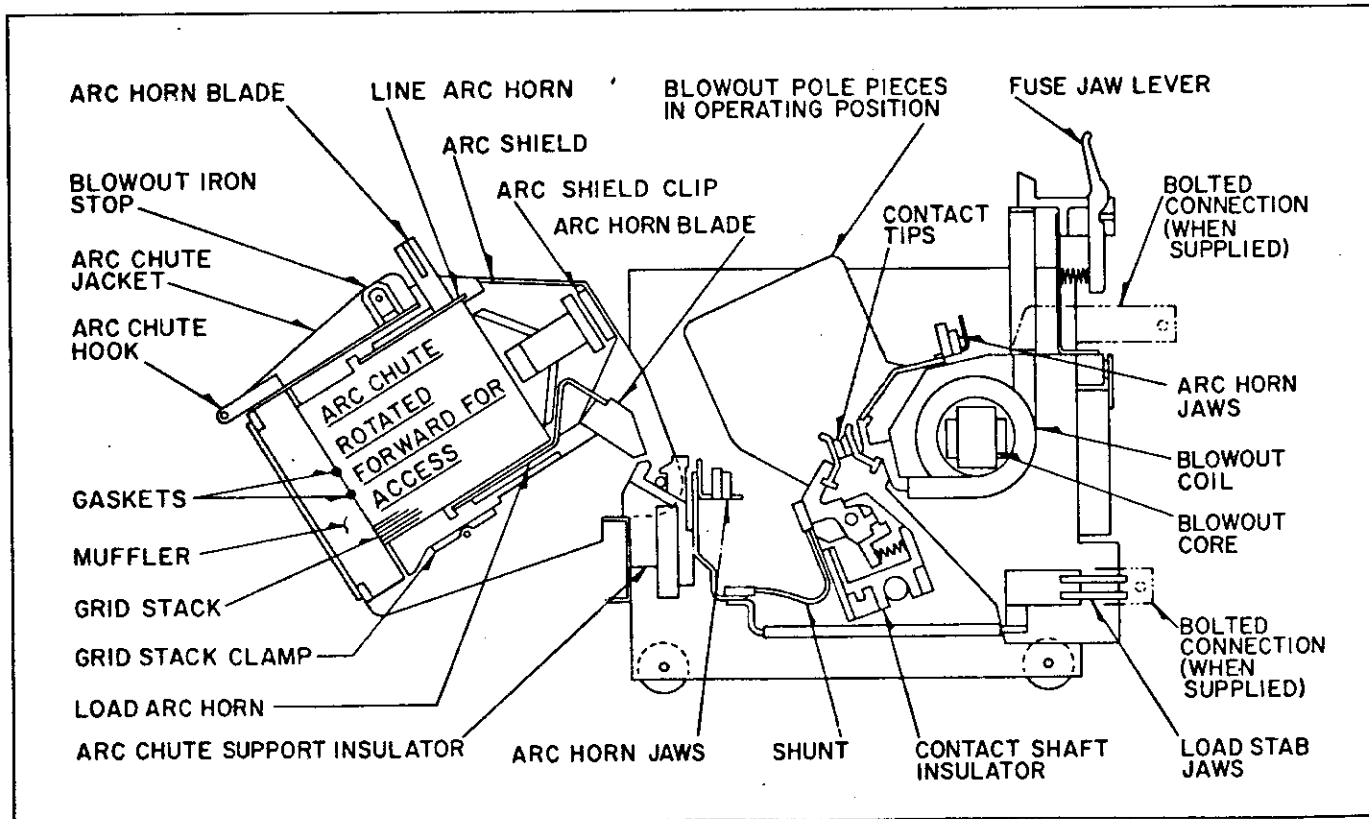

Fig. 8 Sectional View Through Contacts (Dwg. 3513C81)
For visual inspection of the contacts and shunts the arc chutes may be rotated forward out of the normal operating position as shown in Figure 8.
Arc chutes can be removed completely by first rotating them forward toward the front, as shown in Figure 8 and then lifting upward until the horizontal pivot bolt comes free. It is not necessary to loosen hardware to remove the arc chutes.
- 1) Refer to Figure 8 and loosen the grid stack clamping screw.
13) Return arc chutes to contactor by dropping pivot bolt into the slot of molded arc chute support as shown in Figure 8 and then rotate the arc chute into operating position as shown in Figure 2. When in the operating position arc horn blades should make at least .25" engagement with their respective arc horn jaws. In the event an attempt is made to install 5 KV arc chutes on this 7.2 KV contactor or if blowout pole pieces are not in their proper operating position, projections on the arc chute flanges will strike the pole piece assemblies preventing the arc chutes from being rotated into operating position. When the contactor is mounted in an Ampgard starter the arc chute will then prevent the enclosure door and isolating switch from being closed if 5 KV arc chutes are used or if the blowout pole pieces are not in their proper operating position.